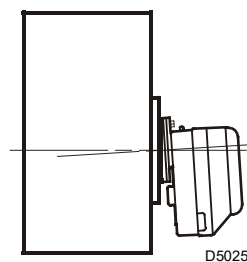

Fig. 5
- After installation ensure that burner is lightly inclined as in Fig. 5.